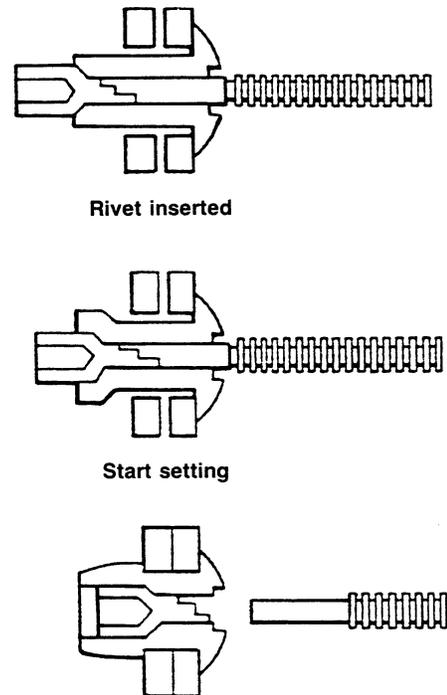

Figure 36.—Pull-mandrel rivet. (From ref. 5.)
**Pull-mandrel rivets:** This rivet is installed with a tool that applies force to the rivet head while pulling a prenotched serrated mandrel through to expand the far side of the tubular rivet. When the proper load is reached, the mandrel breaks at the notch. A generic pull-mandrel rivet is shown in figure 36.